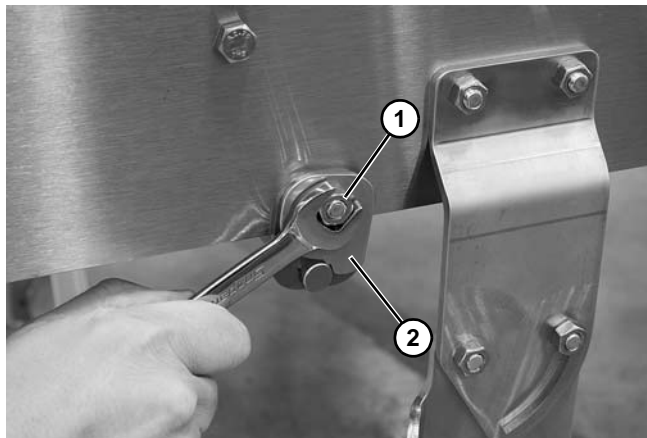

Figure 84
1. Loosen nut (Figure 84, item 1) and rotate return clip (Figure 84, item 2) up on both sides of conveyor. Loosely tighten nuts to hold clip in place.